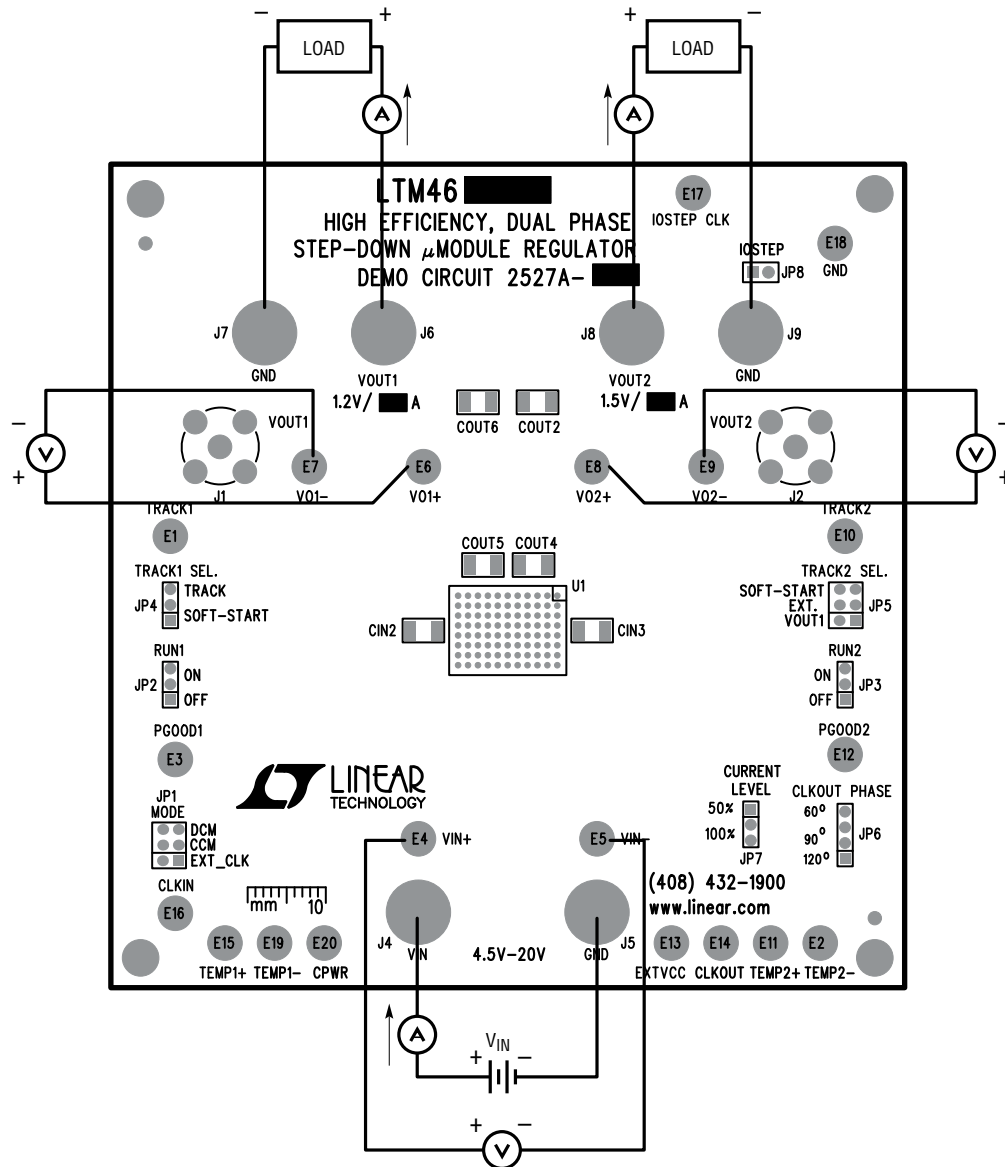

Figure 1. Measurement Setup of DC2527A
Demonstration circuit DC2527A-B is an easy way to evaluate the performance of the LTM4646EY. Please refer to Figure 1 for proper measurement equipment setup and follow the procedure below:
- With power off, connect the input power supply, load and meters as shown in Figure 1. Preset the load to 0A and V_{IN} supply to 12V.